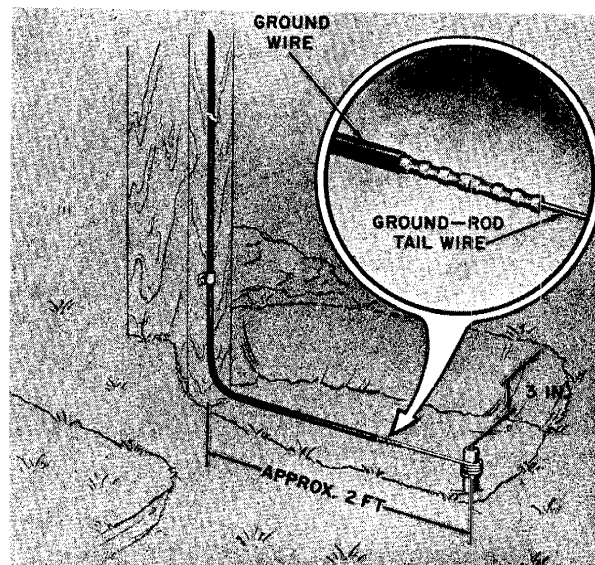

Fig. 28—Ground Rod Installation Near Pole
- Approximately two feet from base of wooden poles or posts where conditions permit (Fig. 28).